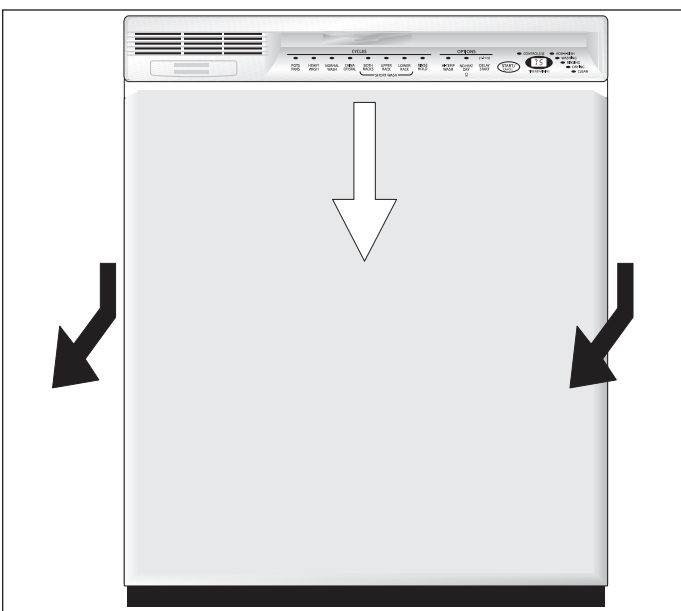

Figure 2-18.
3. Place one hand on each side of door and pull down at top approximately 1/4". Pull entire door assembly toward you to remove. (See Figure 2-18).